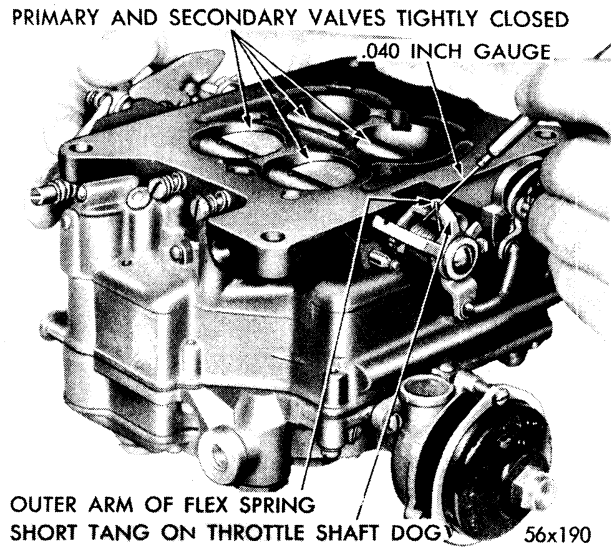

Fig. 95—Checking Opening of Secondary Throttle Valves (Step 4)
- (4) With primary and secondary throttle valves tightly closed, it should be possible to insert wire gauge Tool T-109-193 (.040 inch) between short tang on primary throttle shaft dog and outer arm of flex spring, as shown in Figure 95.